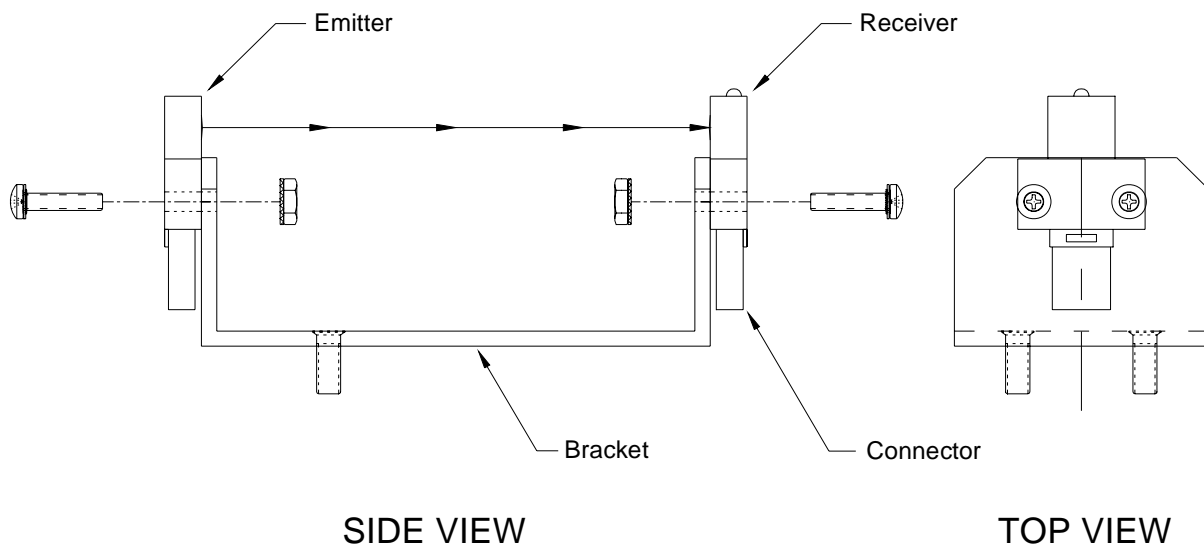

Figure 5-13-c. Replacing Photo Sensor
The gear tooth sensor is a component used to maintain a constant speed of the transport band. For a principle of operation and for the location of the gear tooth sensor, see Figures 5-13 and 5-13-a. As shown in Figure 5-13-d, the gear tooth sensor is attached to the upper right side support bracket (3).
To replace the gear tooth sensor, see Figure 5-13-d and proceed as follows: